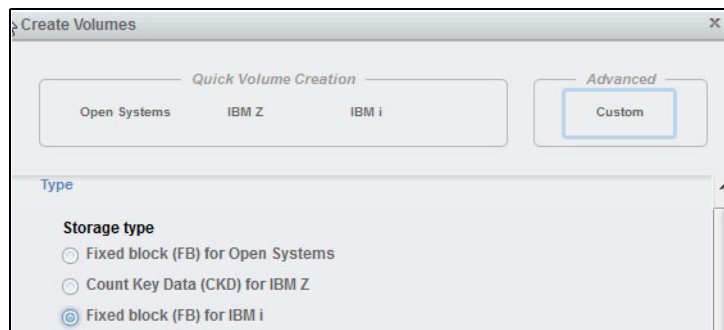

Figure 11-60 Creating Custom FB for IBM i
2. For the type, select **Fixed block (FB) for IBM i** as shown in Figure 11-60.